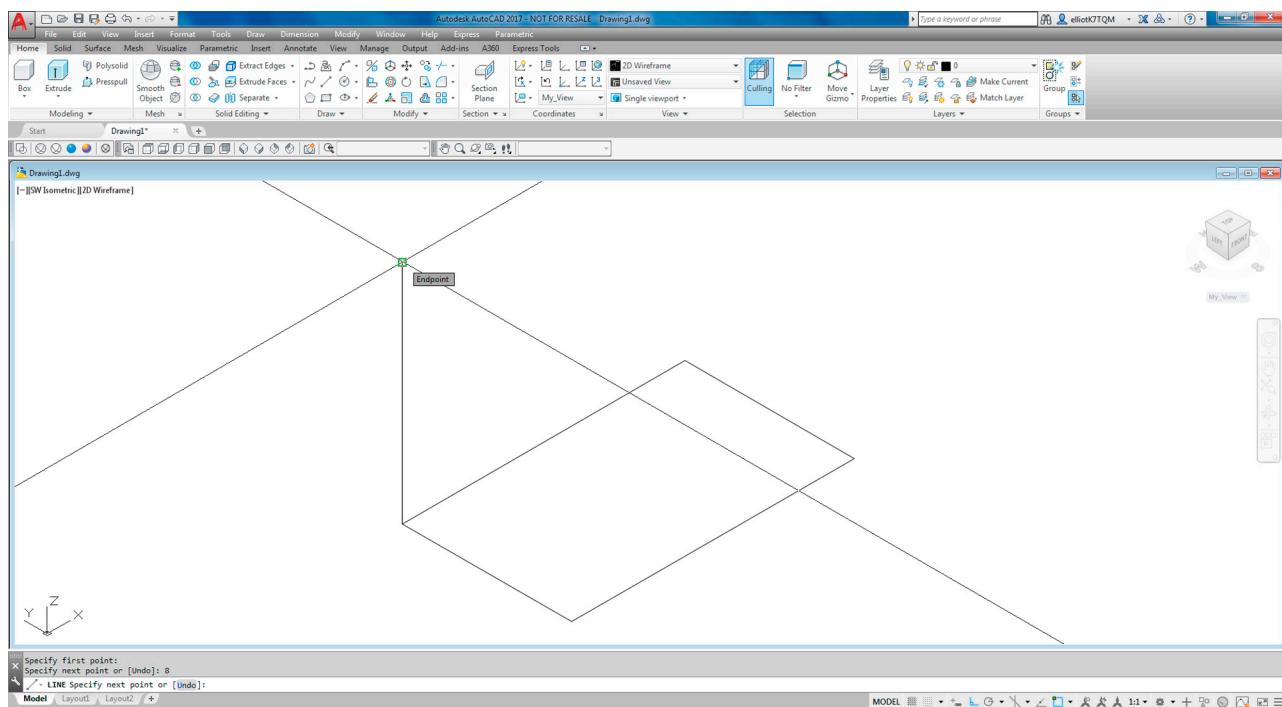

FIGURE 21.13 Method 1, Step 1.
Step 1. Begin the line command, with Ortho on, from any endpoint corner of your new rectangle. The line will appear and go straight up as seen in Fig. 21.13. You can make the line any random length or 8", as was done in this example.